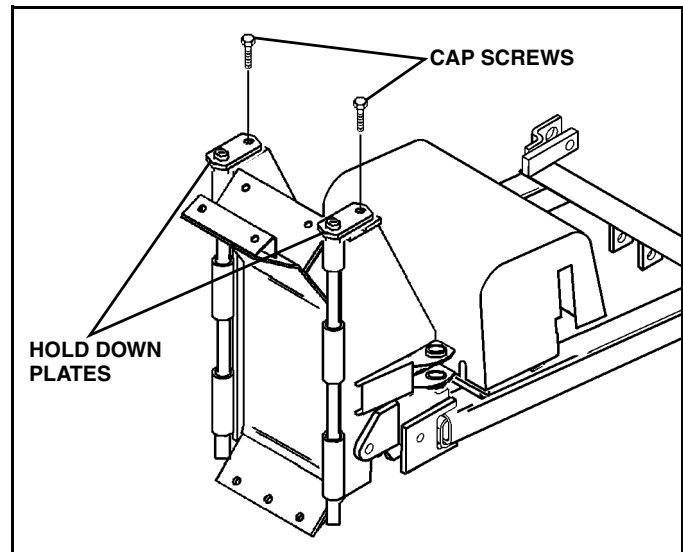

Figure 1-3
2. Remove the cap screws from the hold down plates at the top of each of the two wing pivot shafts and then remove the pivot shafts from the center blade assembly. (See Figure 1-3).